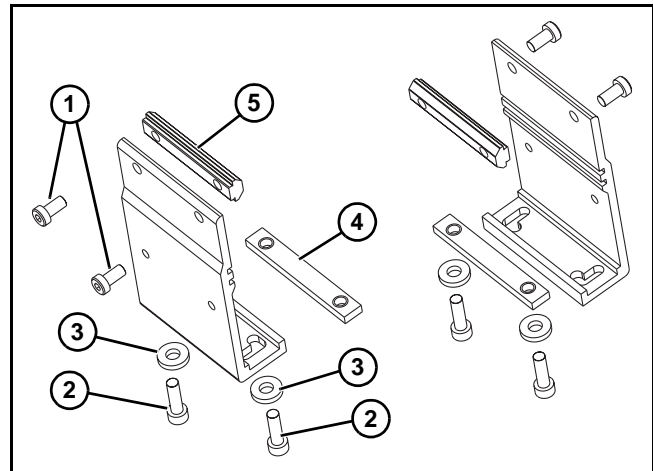

Figure 8
1. Locate brackets. Exploded view shown in Figure 8.
2. Remove screws (Figure 8, item 1 & 2), washers (Figure 8, item 3), nutbars (Figure 8, item 4) and T-bars (Figure 8, item 5) from brackets.
3. Insert T-bars (Figure 8, item 5) into conveyor side slots (Figure 9, item 1). Fasten brackets (Figure 9, item 2) to conveyor with mounting screws (Figure 9, item 3).